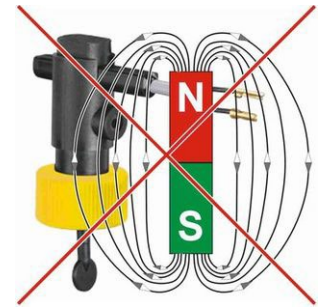

Fig. 2
- ↪ Please make sure that there are no external magnetic fields in the immediate vicinity of the flow switch, since these can impair device functioning (→ Fig. 2).